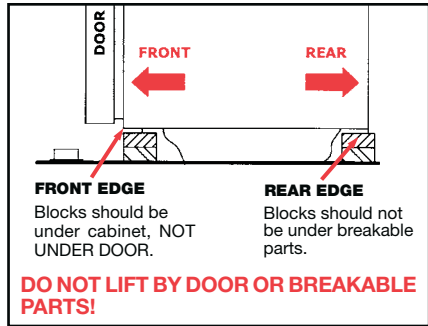

Figure 11
- In the case of a Sub-Zero® refrigerator, for the front edge of the cabinet, the best surface for lifting may be the flat area of the cabinet just behind the door. Be careful however to prevent the wooden blocks from contacting the door, or any other breakable parts, such as the base cover or drip pan supports, as this can cause major damage to the appliance. (See figure 11.)
- At the rear edge, best surface for lifting may be at the back of the cabinet. Do not situate any blocks underneath the back side cover or drip pan supports; or any exposed hoses or wiring. (See figure 11.)